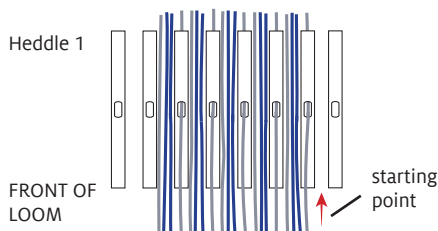

FIGURE 22: THREADING HEDDLE 1
4. Begin threading in the hole **next to** this slot (Figure 22). Thread all across the heddle in this way: 1 thread in a hole, 3 threads in a slot.